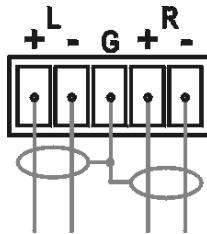

Figure 4: Balanced Stereo Audio Connection
- A balanced stereo output connection, see Figure 4